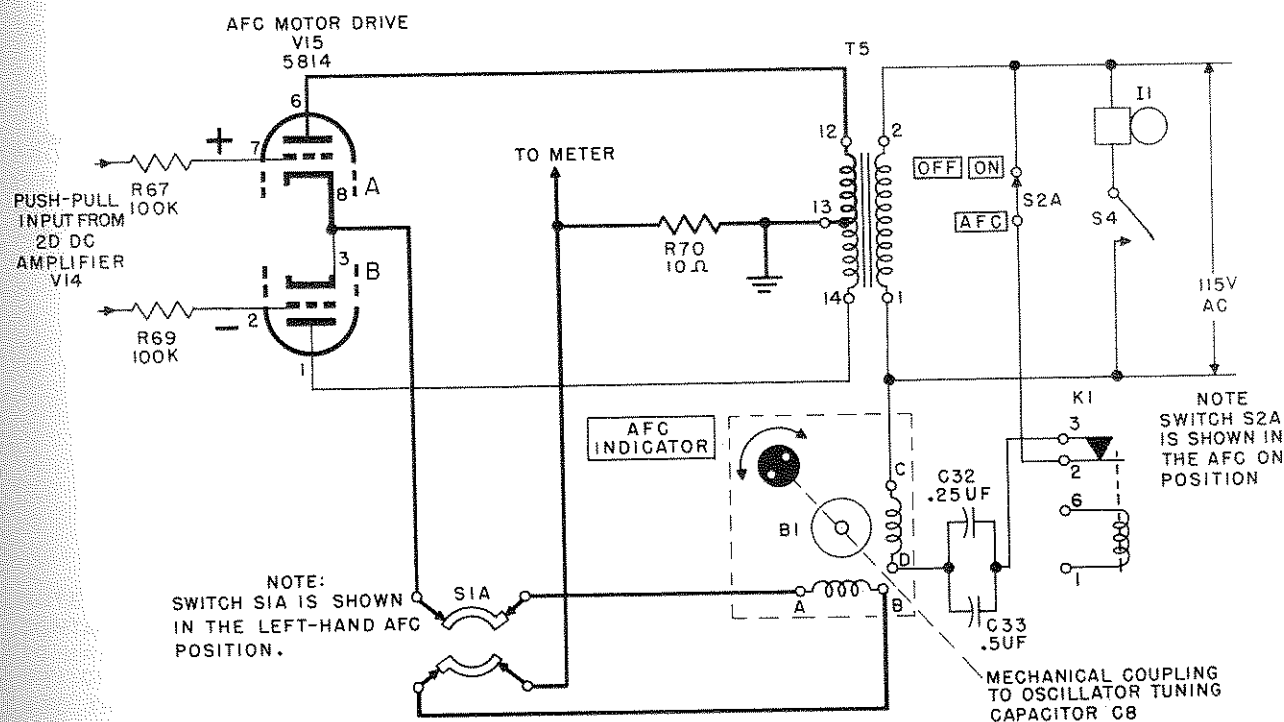

Figure 35. Motor and afc motor drive circuit, simplified schematic diagram.
47. Motor and Motor Drive Circuit (fig. 35)
c. When the mark frequency drifts away from the 50-ke center frequency in the direction of a higher frequency, the grid of V15A becomes more positive and the grid of V15B (fig. 35) more negative. This causes V15A to conduct, and the current passes through the top half of the secondary winding of T5, through R70 and phase winding AB of B1, and back to the cathode through switch S1A. Because of the phasing between the two windings of B1, the motor turns in such a direction as to cause an unmeshing of the plates of C8 resulting in a decrease in capacitance. The decrease in capacitance continues until the oscillator brings the if. back to 50 ke and the dc amplifiers again are balanced. When the mark signal drifts below 50 ke, the grid of V15B becomes more positive and tube V15A is cut off. Tube V15B conducts and current passes through the lower half of the sec-